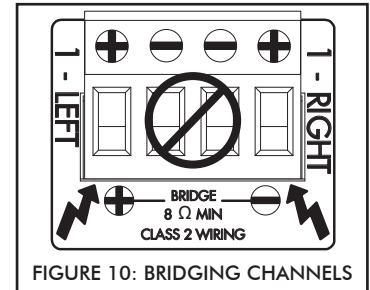

FIGURE 10: BRIDGING CHANNELS
2. Connect the speaker's "+" lead to the left side of the connector marked "+" (see Figure 10).
3. Connect the speaker's "-" lead to the right side of the connector marked "+" (see Figure 10).